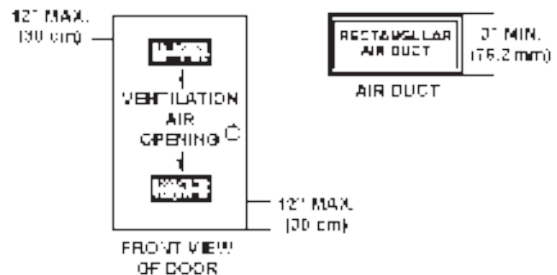

FIGURE 9. VENTILATION CLEARANCES
4. Carefully plan the place where you are going to put the water heater. Correct combustion, vent action, and vent pipe installation are very important in preventing death from possible carbon monoxide poisoning and fires, see **Figure 9** (page 10) and **Figure 10** (page 14).